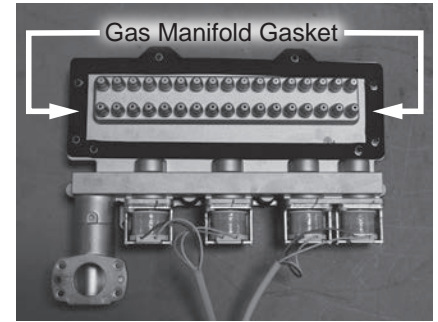

Figure 162 - Replacing gas manifold gasket
**60** Locate the gas manifold gasket provided in the kit. Use a plastic scraper to gently scrape old insulation gasket clean from gas manifold. Confirm assembly surface is free of any debris or leftover insulation. Install new gasket to gas manifold. See Figure 162.